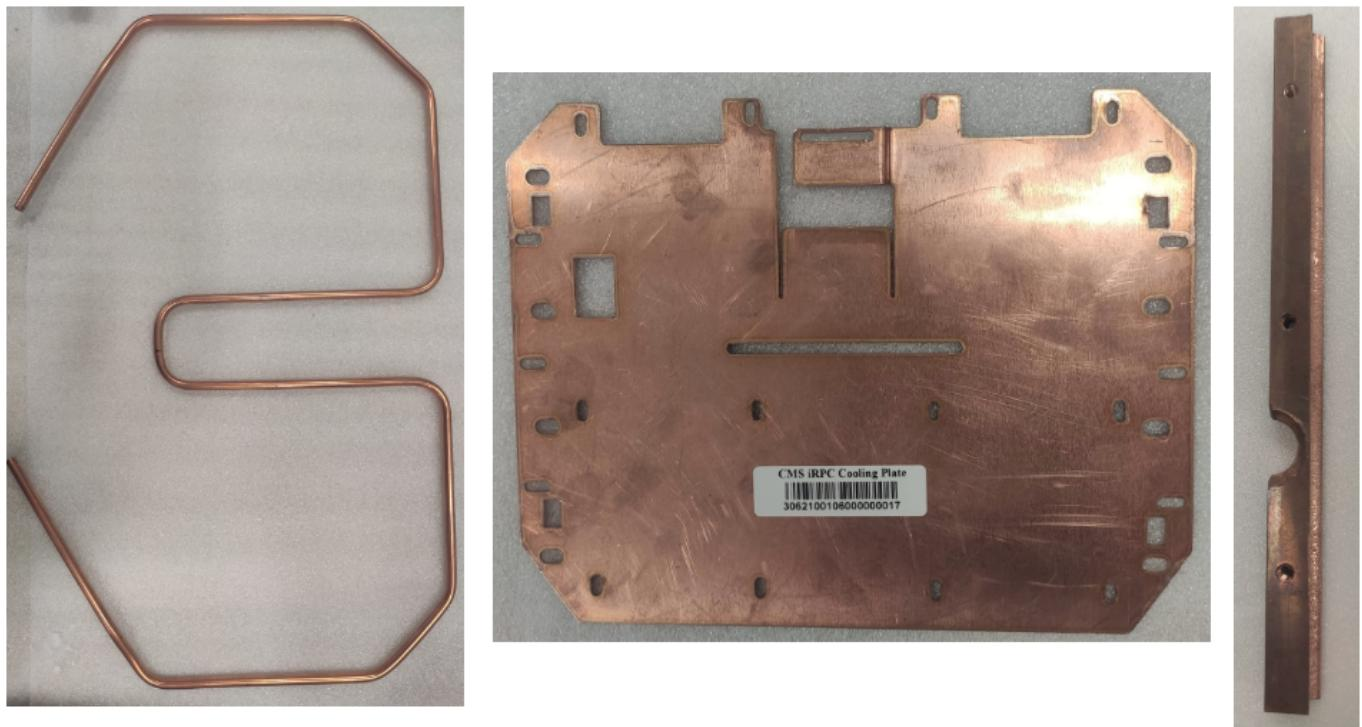
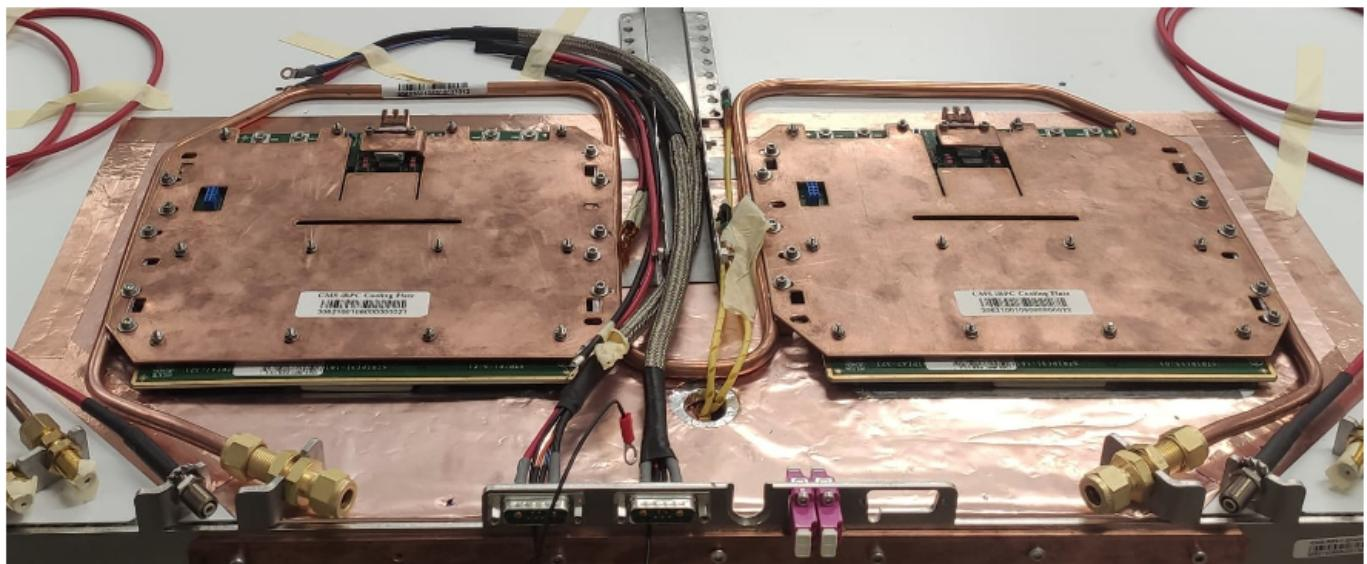

Figure 1
Figure 2
The electronic FEBs need to be cooled during operation. The cooling process will be done by circulating water in cooling pipes shown in Figure 1.Left attached to the cooling plate shown in Figure 1.Middle. The FEBs are sitting on bottom of the cooling plates. The cooling plate is attached to the cooling pipe by a L shape connector, shown in Figure 1.Right. Figure 2 shows the FEBs mounted on the chamber with the cooling components (Pipes, Plate, L bars).
12. Check the set point on the chiller by pressing on SET button. It should be at 17 oC and if not, you can adjust by pressing on SET button and in same time increase/decrease the temperature from the arrows shown in Figure 2 to reach 17 oC